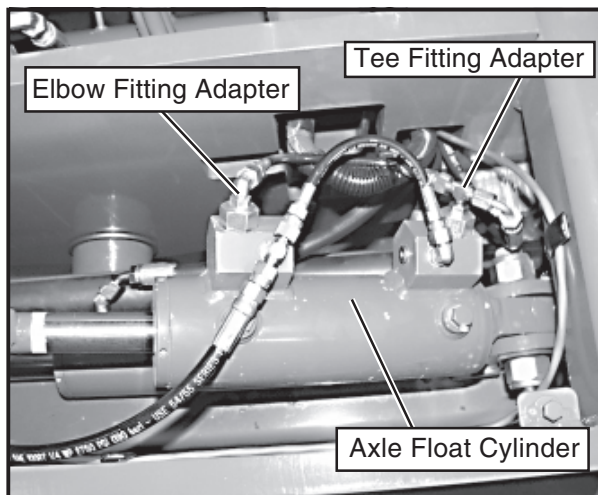

Figure 1: Front of machine
PROCEDURE: Read all instructions thoroughly and refer to Figures 1 through 4 before starting.
2. Remove cover on front of chassis exposing Axle Float Cylinder. See Figure 1.